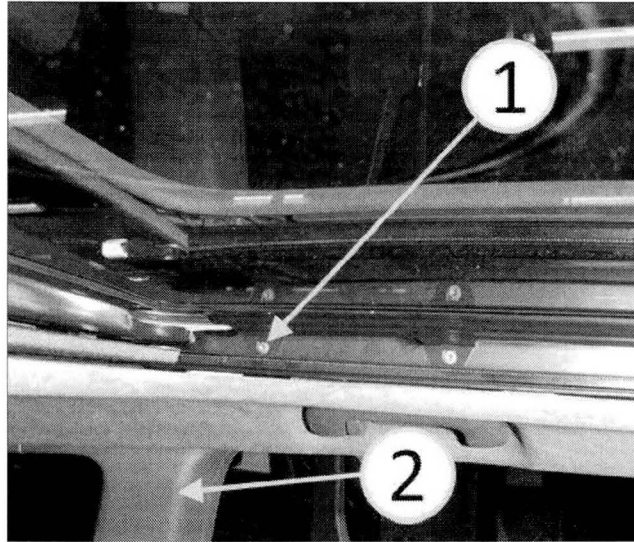

Fig. 2 Sunroof Glass Panel Screw
3. Remove the rear sunroof pane rear attaching screw on the side where the noise is heard (Fig. 2).